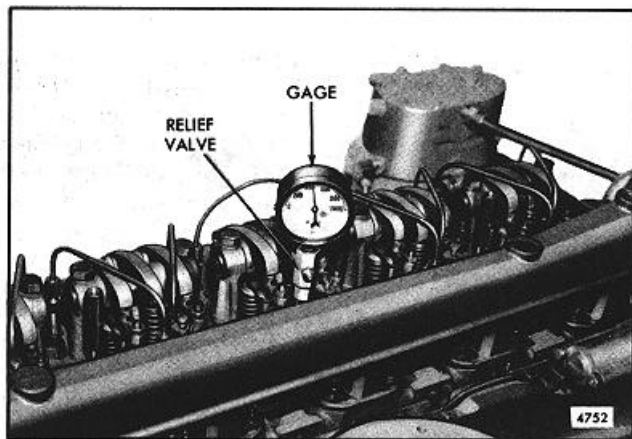

Fig. 2 - Checking Compression Pressure
3. Remove the injector and install an adaptor and pressure gage from Diagnosis Kit J 9531-01 (Fig. 2).